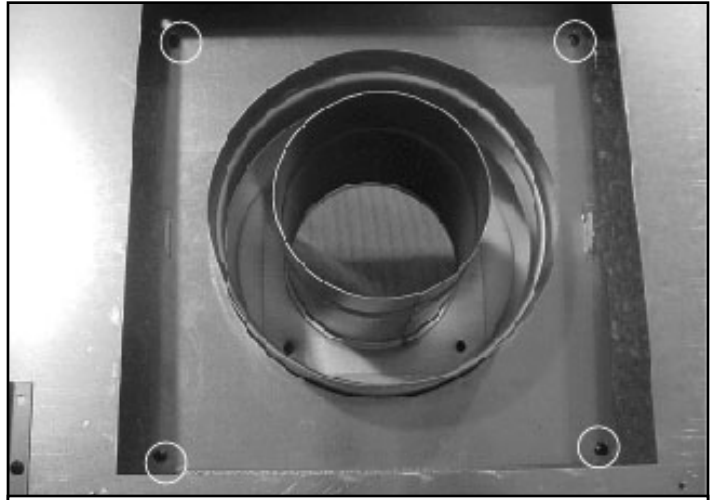

Figure 7.3 Inner Plate, Top of Appliance
- Remove four screws holding inner plate surrounding the flue. See Figure 7.3. Remove inner plate and discard.